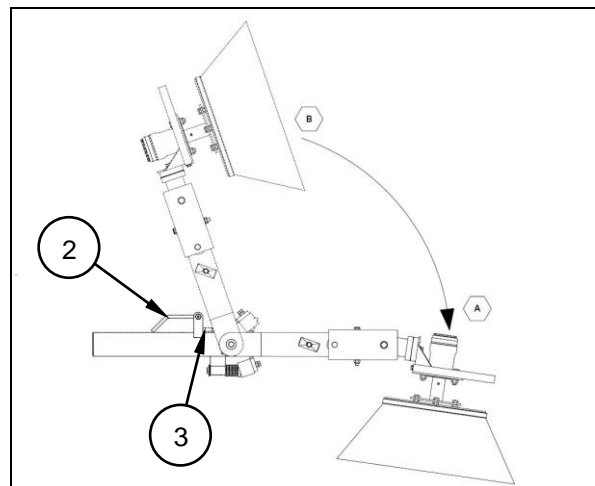

Fig. 4.15
- Pull lever (2) out of the locked position (3), then swivel the side brush from B to A (Fig. 4.15).